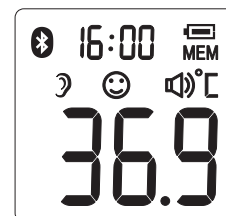

Figure 8
2. The thermometer will automatically memorize the last 30 temperature readings. Each memory also records the measurement date/time/mode icon. Each time the *Setting Button* is pressed, the screen displays past readings that correspond with a number 1-30. The number 1 reflects the most recent reading, while the number 30 reveals the oldest reading stored in memory. (See Figure 8)